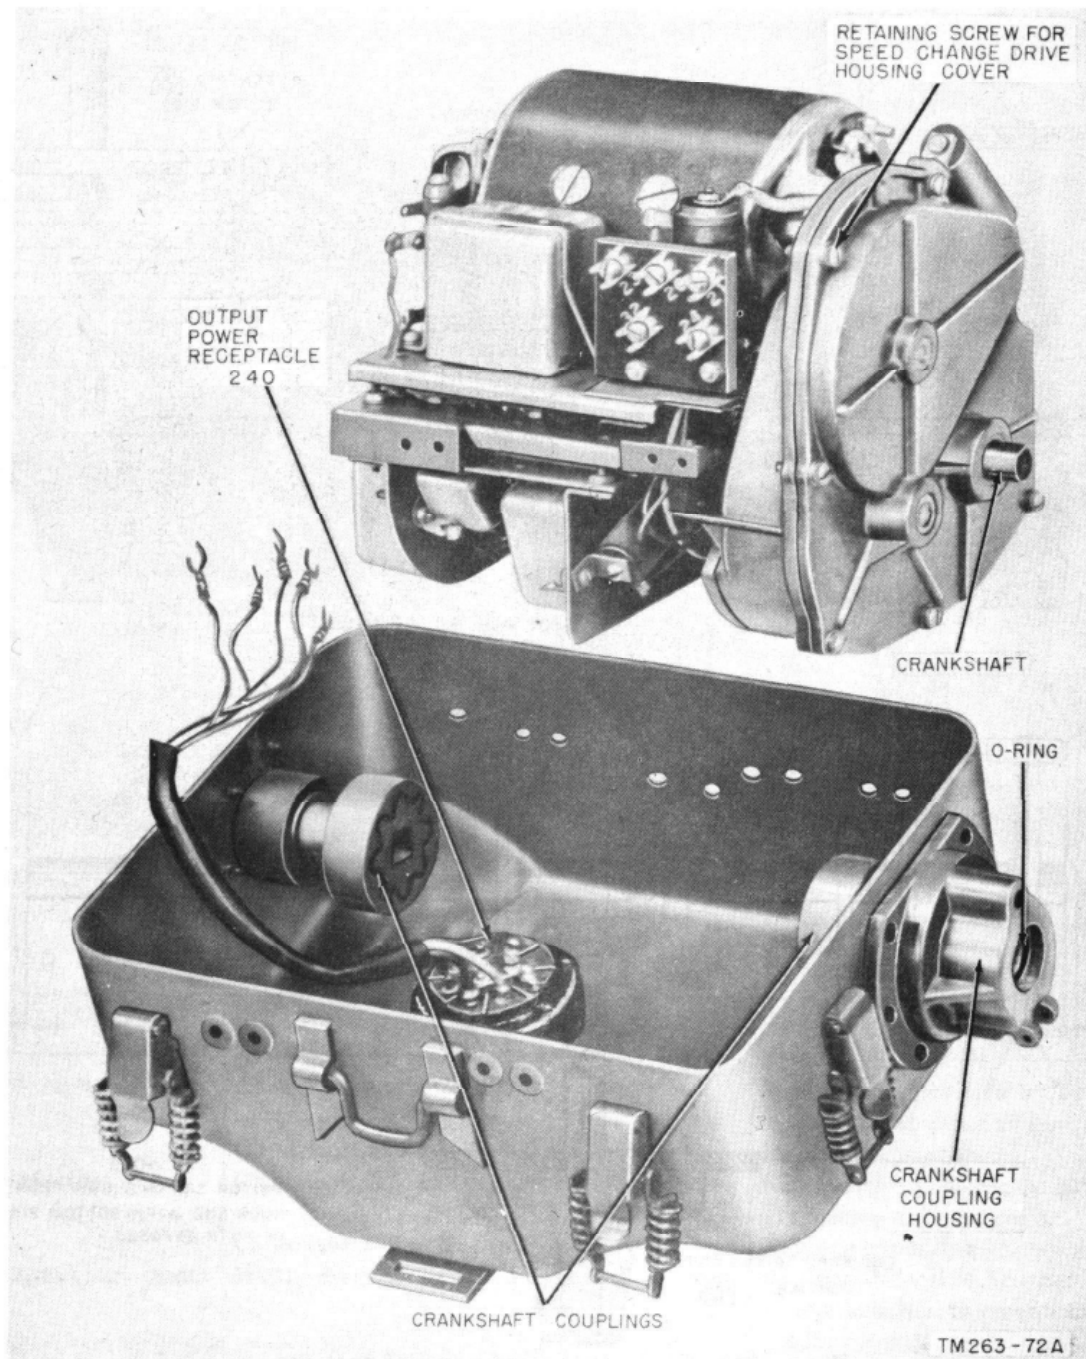

Figure 127. Generator GN-58-A, bottom half of housing removed.
- d. Pull the crankshaft coupling (fig. 127) through the hole in the housing.